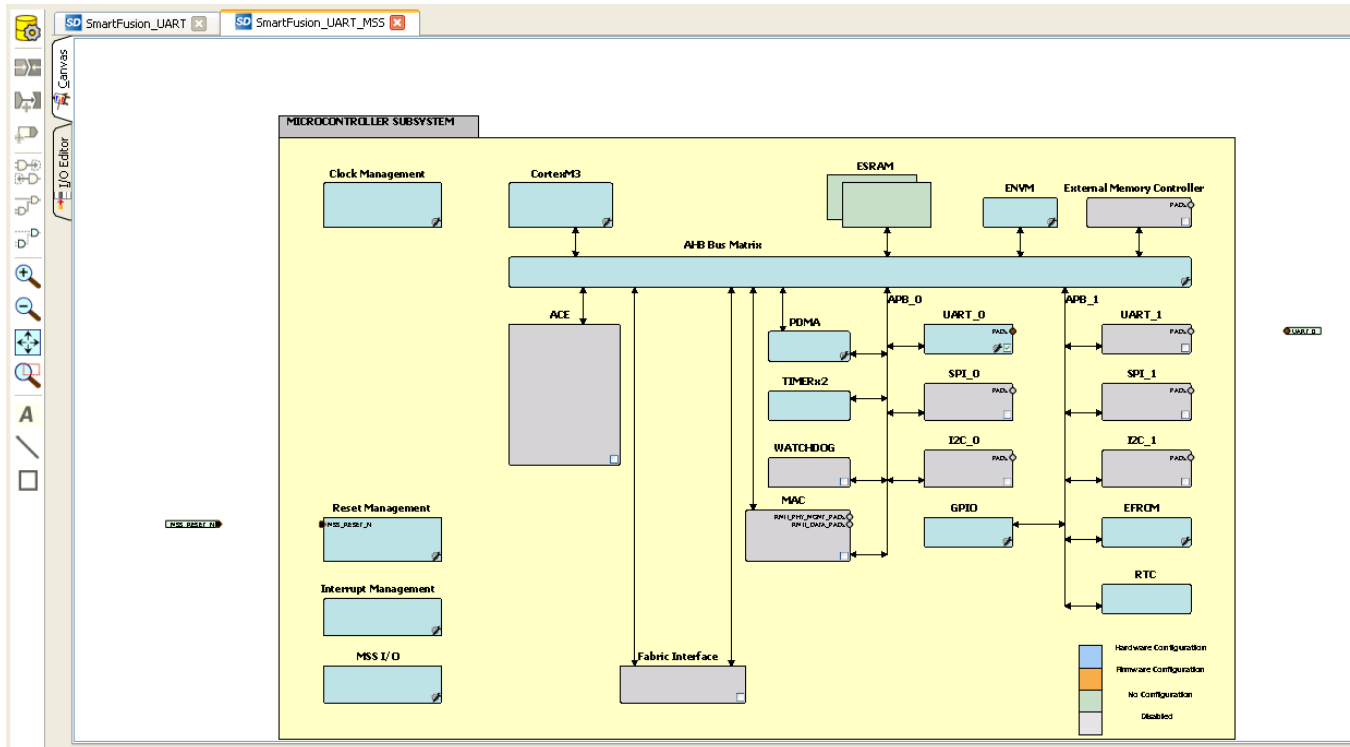

Figure 7 · Used MSS Peripherals
3. After disabling the peripherals, the SmartDesign canvas looks similar to Figure 7 .